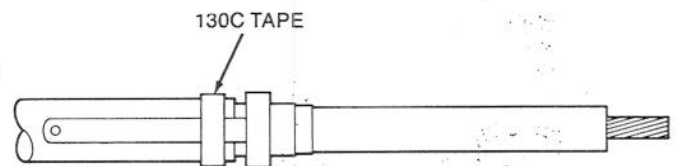

Figure 9
- b. Apply three wraps, highly stretched 130C Tape around the cable and over the 130C Tape just applied around ground strap. (Figure 9.)